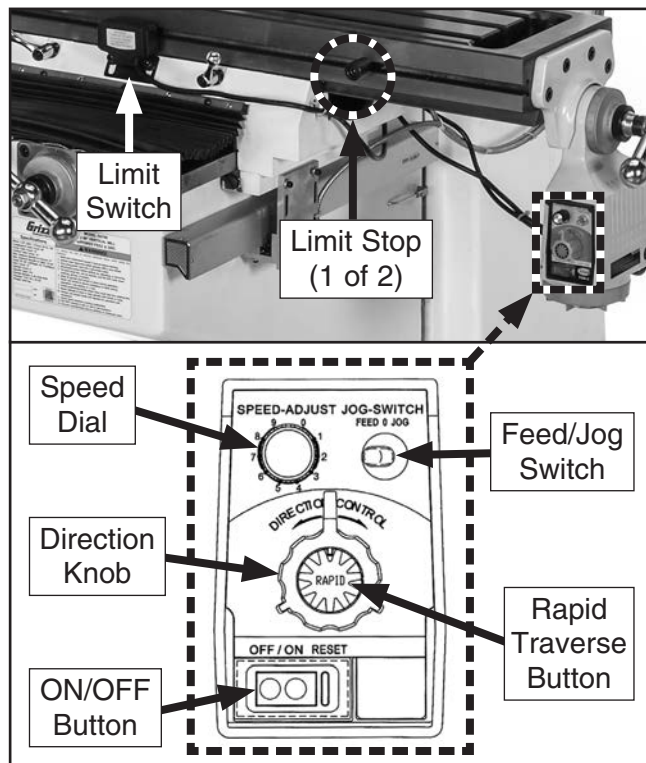

Figure 30. Location of X-axis power feed controls.
Two adjustable table limit stops are located at each end of the table (see **Figure 30**). They limit automatic table movement by pressing the table limit switch, which stops the X-axis power feed unit.
2. Turn speed dial (see **Figure 30**) all the way counterclockwise to slowest setting.
3. Move direction knob to neutral (middle) position, press feed/jog switch to left (feed position), then push ON/OFF button (see **Figure 30**).
To jog table, move Feed/Jog switch (see **Figure 30**) to right (Jog) position. Table will move in selected direction until switch is released.
To cause table to instantly move at full speed when already in motion, press the rapid traverse button (see **Figure 30**). The table will resume previous speed when button is released.